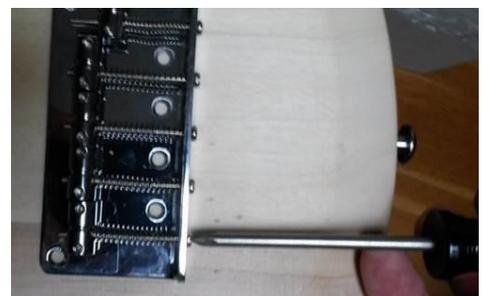

Fig 5.5 Intonation Adjustment
5.5 Intonation (Figure 5.5) - 4 -
5.5 Intonation (Figure 5.5)